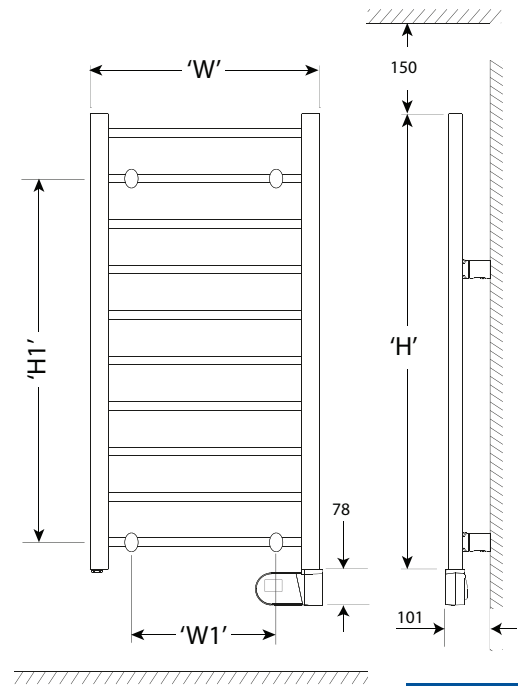

Fig. 1
See Fig.1. All dimensions are in mm.
IMPORTANT - The wall bracket kit supplied with the rail must be used and the rail must be installed in the correct orientation. The fixings should be used to secure the bracket to the particular wall on which the heater will be installed. The heater should be positioned observing the minimum clearances stated around the heater - see Fig. 1.
1. Mark suitable mounting hole positions for the fixing brackets (ensuring they are horizontal) - see Fig. 1 (Dim W1 & H1), ensure to allow enough room above and below to maintain the minimum clearance stated in Fig. 1.